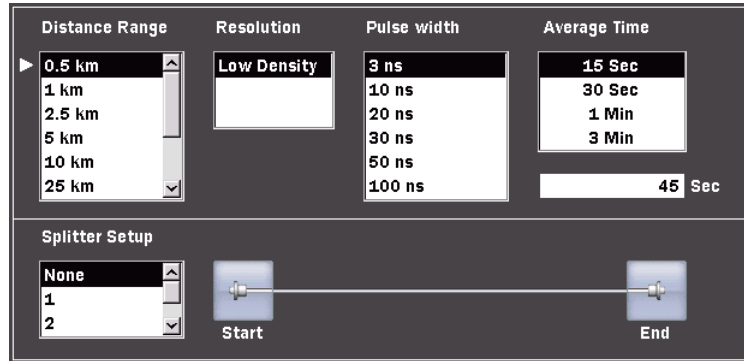

Figure 5-22: Range/Resolution/Pulse Width/Average Time/Splitter Setup Dialog box
1. Press **Test Parameters (f4)**, the Distance Range, Resolution, Pulse width, Average Time dialog and Splitter Setup box appears (see Figure 5-22 on page 5-57).